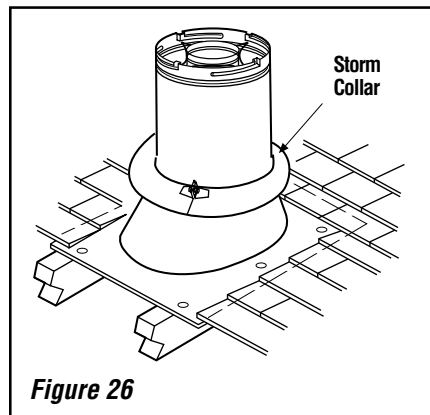

Figure 26
I. Install the roof flashing - Extend the vent sections through the roof structure. Install the roof flashing over the vent section and position such that the vent column rises vertically (use carpenter's level) (**Figure 26**). Nail along perimeter to secure flashing or adjust roofing to overlap the flashing edges at top and sides only and trim where necessary. Seal the top and both sides of the flashing with waterproof caulking.
J. Install the storm collar - Install the storm collar, supplied with the flashing, over the vent/flashing joint. See **Figure 26**. Loosen the storm collar screw. Slide collar down until it meets the top of the flashing. Tighten the adjusting screw. Apply non-combustible caulking or mastic around the circumference of the joint to provide a water tight seal.